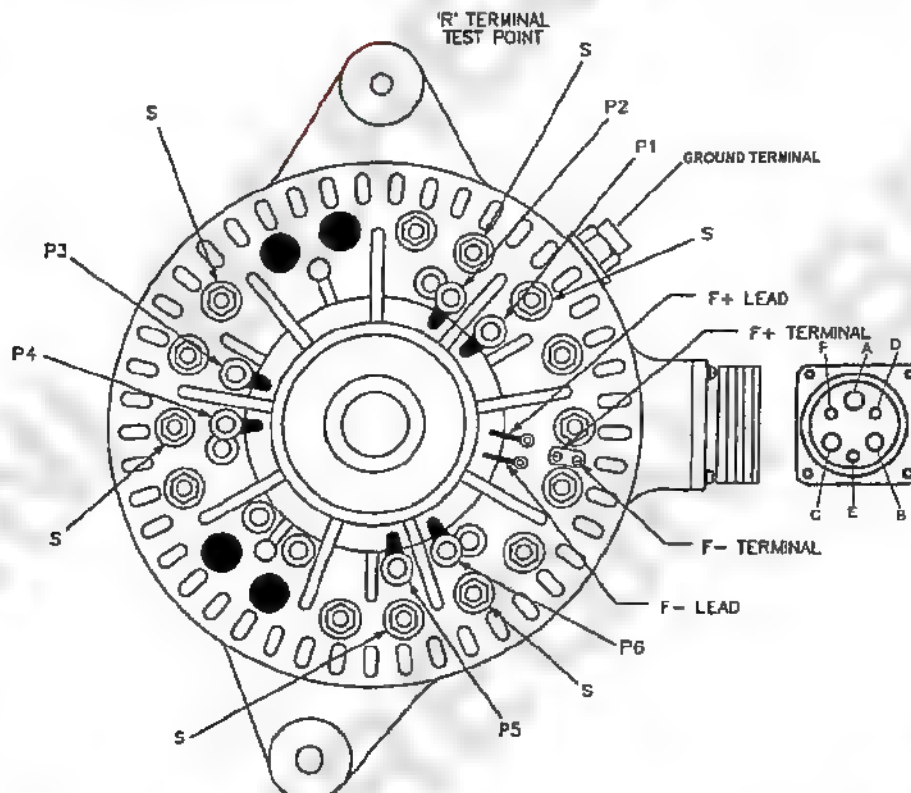

Figure 2-16. Stator Winding Points
(6) Stator Tests - Remove all phase leads (P1-P6) from front housing (fig 2-16).
(a) Open stator winding - Set ohmmeter for X10 scale and make sure ohmmeter is zeroed. Connect multimeter leads to each successive pair of phase stator windings (fig. 2-16). Ohms should read less than 1 ohm between each pair of stator phase windings. If ohms reads very high, the stator is open and must be replaced. Replace or repair stator and shell assembly, in accordance with paragraph 3-4b, steps 1 thru 12.
(b) Shorted stator winding - Set ohmmeter for X1 scale and make sure ohmmeter is zeroed. Connect multimeter leads to each phase lead and ground terminal located on outside of front housing (fig. 2-16). Ohms should read very high. If ohms read zero the stator is grounded and must be replaced. Replace or repair stator and shell assembly, in accordance with paragraph 3-4b, steps 1 thru 12.